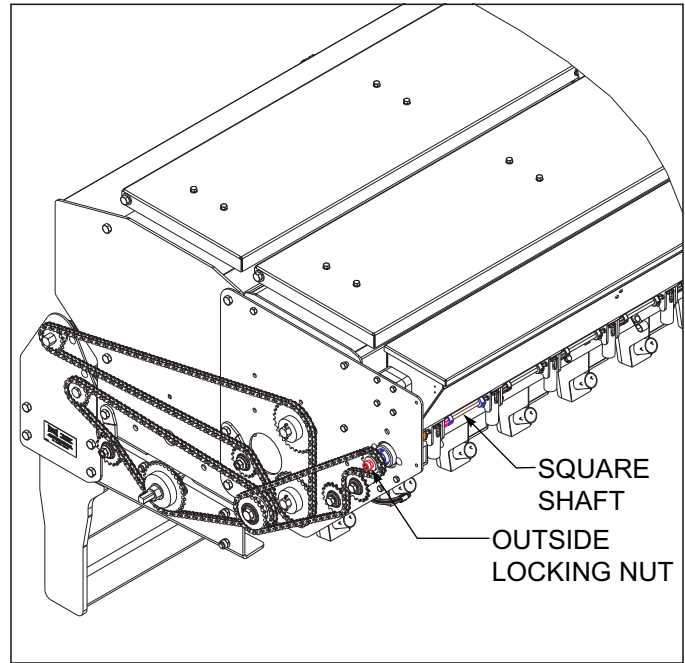

Figure 4-33: Seed Rate Locking Nut
- b. Loosen the 1/2 locknut on the outer end of the small seed square shaft See Figure 4-33.